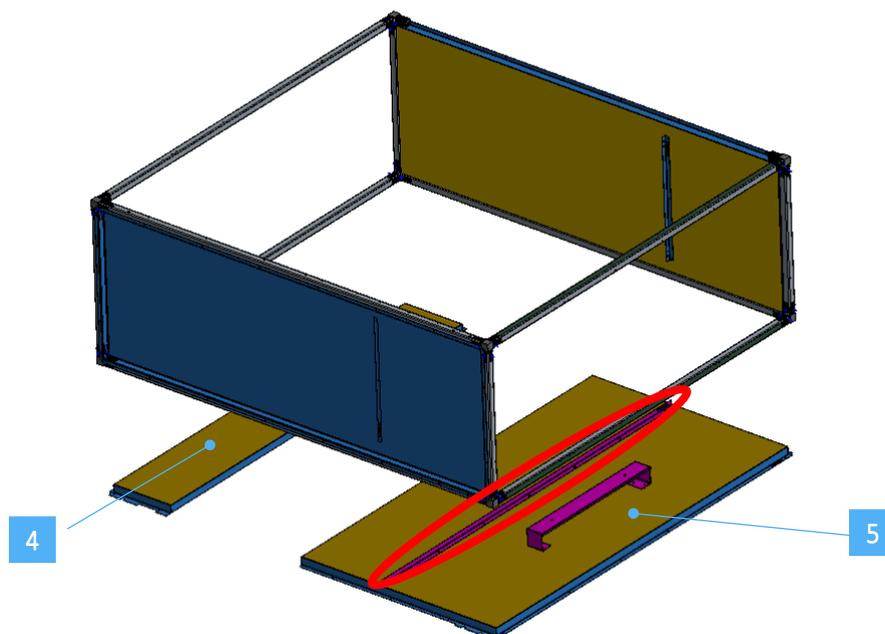

Fig. 5 *Bottom panels assembly.*
- 2 Insert the bottom panels [4] and [5] (listed PN 73-00055-01 and 73-00053-01) everything inside the tubes is shown in figure 5 and fix them to the tubes connected to the M4 self-threading screws supplied. The horizontal profile of the panel [5] (red detail in figure 5) must be in line with the horizontal ones of the side panels (red detail in figure 5).